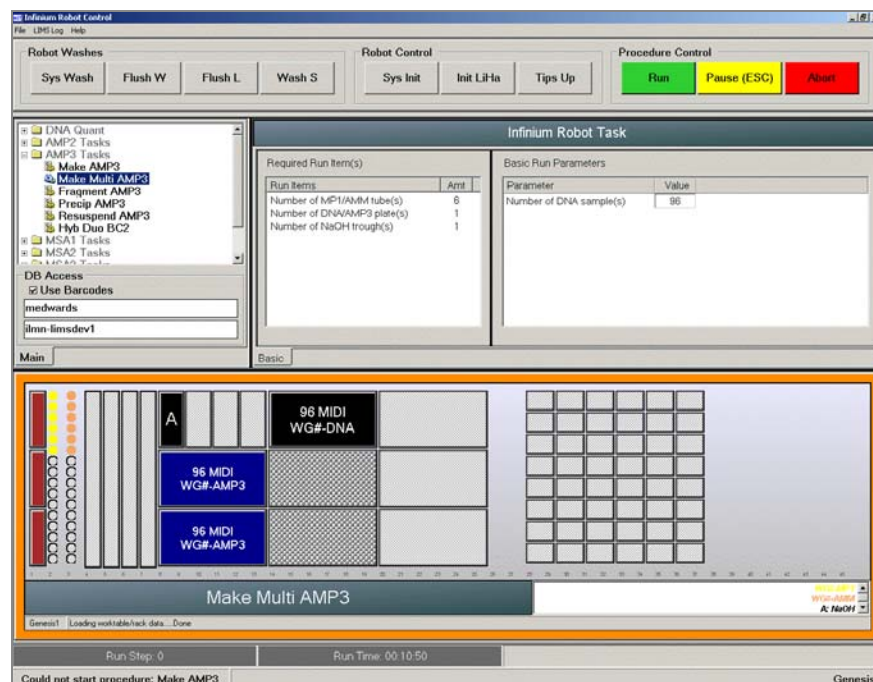

Figure 108 Make Multi AMP3 Screen
10. Place the MP1 and AMM tubes in the robot tube rack according to the bed map (Figure 108). Remove the caps.
11. Add 15 ml NaOH to the quarter reservoir, and then place the reservoir on the robot bed according to the bed map (Figure 108).
12. Place the AMP3 and WG#-DNA plates on the robot bed according to the bed map (Figure 108).